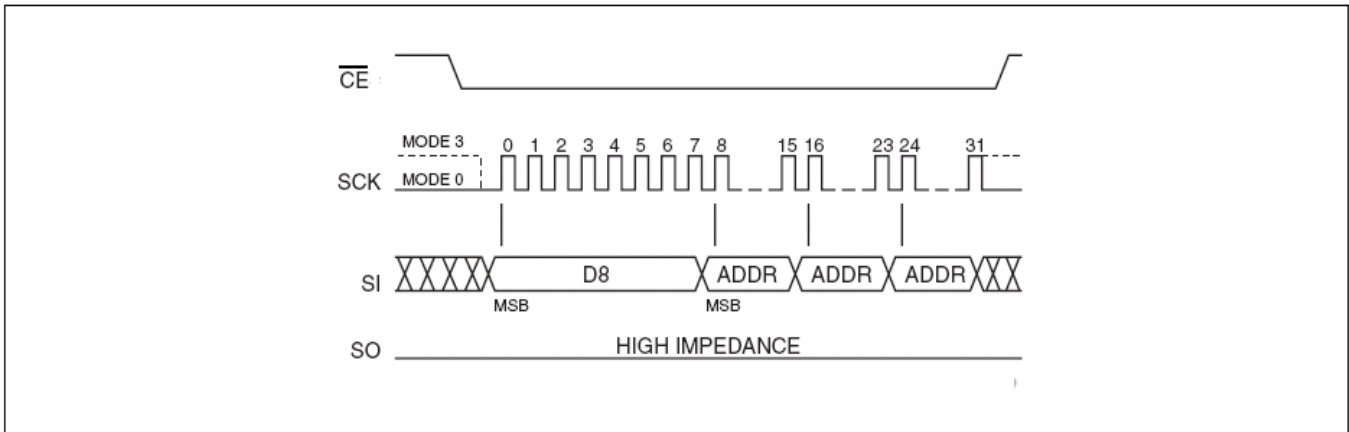

Figure 8: 64K-byte Block Erase Sequence
-A₀]. Address bits [A_{MS}-A₁₆] (A_{MS} = Most Significant address) are used to determine the block address (BA_X), remaining address bits can be V_{IL} or V_{IH}. \overline{CE} must be driven high before the instruction is executed. The user may poll the Busy bit in the Software Status Register or wait T_{BE} for the completion of the internal self-timed Block Erase cycle. See Figure 8 for the Block Erase sequence.